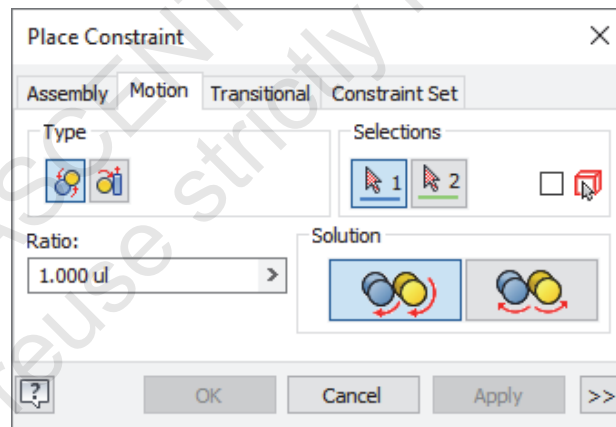

Figure 1–1
2. In the *Assemble* tab>Position panel, click  (Constrain) to create a constraint relationship. Select the *Motion* tab in the Place Constraint dialog box, as shown in Figure 1–1.